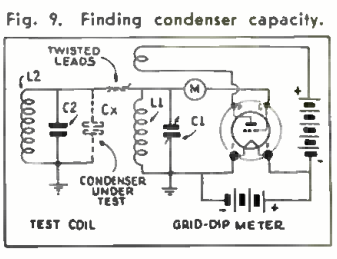

Fig. 9. Finding condenser capacity.
**"GRID-DIP" TEST OF SMALL CONDENSERS.** It is often necessary to find the value of small fixed condensers (of less capacity than C1) which are not clearly marked as to capacity. By using the scheme outlined in Fig. 9, this may be done easily and quickly. An ordinary grid-dip oscillator is used in conjunction with a condenser and coil combination. C2-L2. Condenser C2 is set so that the tuning condenser, C1, must be turned almost fully open before the meter dips. The unknown condenser, Cx, is then connected across C2, and C1 turned until the dip occurs. The readings of C1 may be charted on graph paper against capacity, the settings being obtained by the use of known capacities.